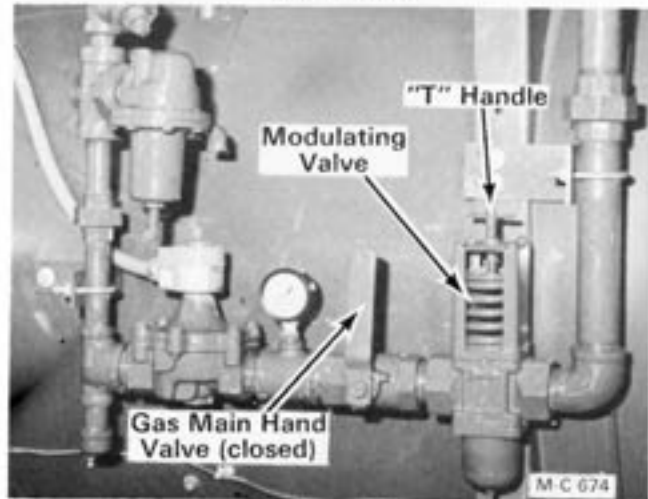

Figure 14
3. Close the gas main hand valve for each burner (handle 90° to the piping), See Figure 14.
4. Check the modulating valve in each burner gas manifold to be sure the "T" handle has not been turned all the way in to the wide open position, see Figure 14. The "T" handle should be halfway between the closed and fully open position.
3. Open the gas main hand valve (Figure 14) ¼ of the way. Flip the bottom burner ignition switch ON. After a ten (10) second delay the gas valve light will be ON and the burner will light.